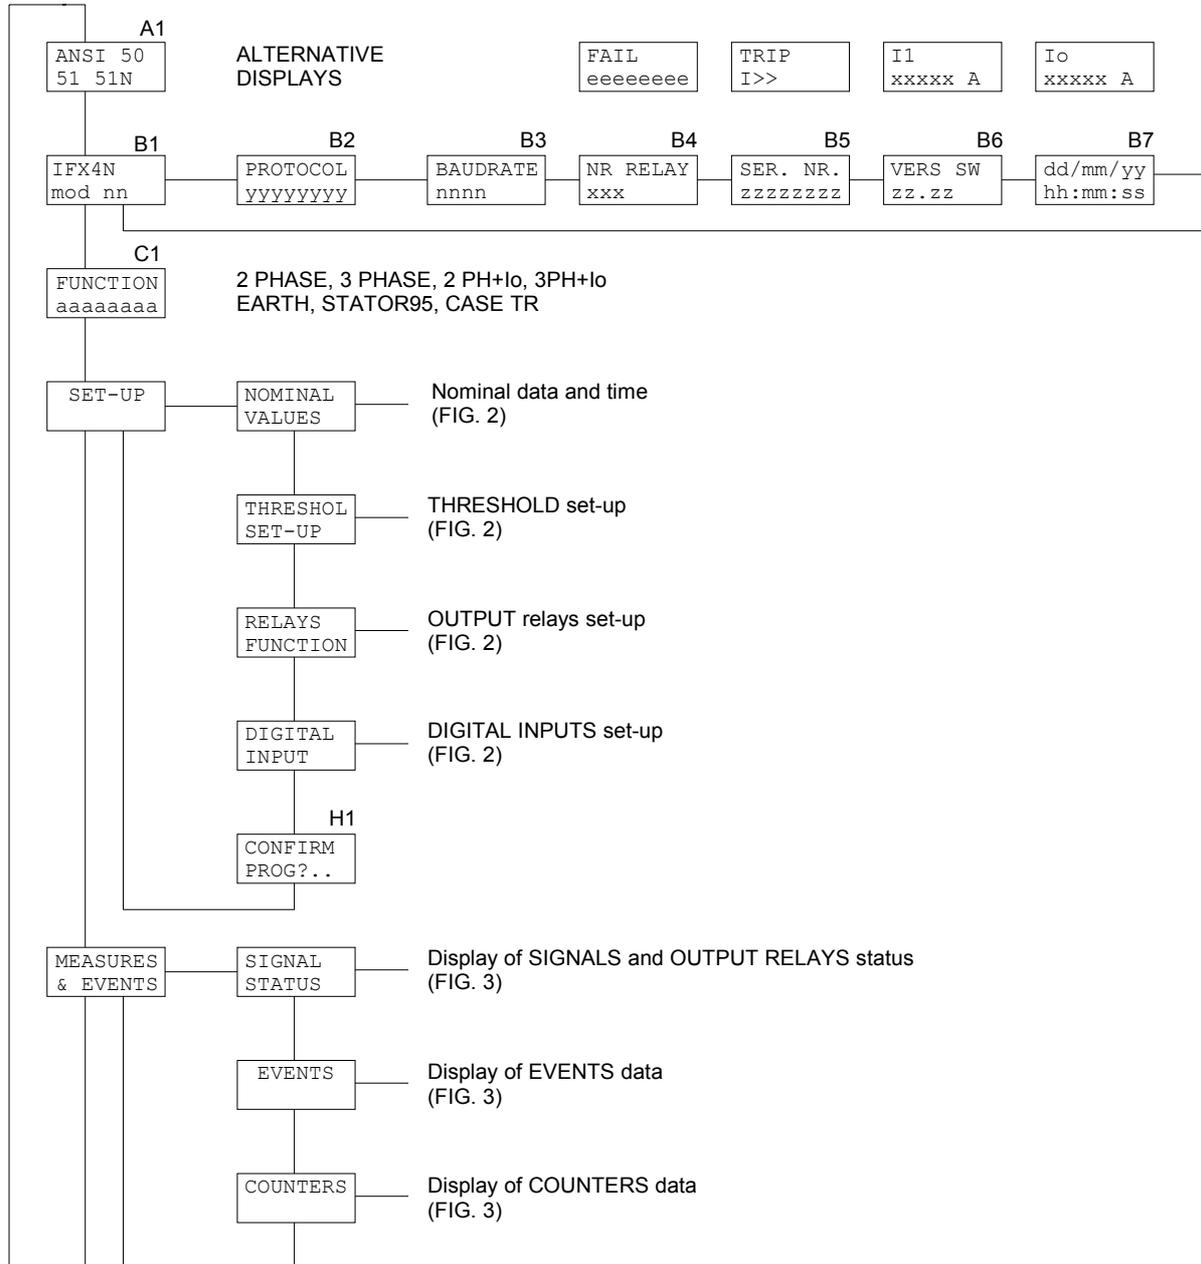

Figure 1
- the structure of the visualizations and their contents are showed in Figures 1, 2, and 3.
The programmable parameters are showed in Figures 1, 2 and 3 at the following references:
- display on STANDARD MODE (Fig. 1, ref. A1 - par. 5.1)
The contents and the structure of the displayed messages are shown in figures 1, 2 and 3; the references A1, B1, B2 etc. identify specific displayed messages in the figures.
### 5.3 Address and Time (fig. 1)
**5.4 Protection function selection (fig. 1)**